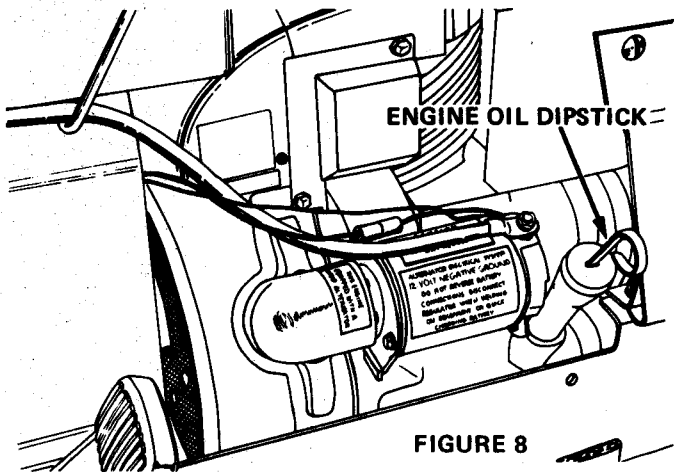

FIGURE 8
To check the oil, stop engine and wipe all dirt and dust from around the dip stick, Figure 8. Pull dip stick out, wipe off the oil, re-insert dip stick and push it down tight. Pull the dip stick out and observe the oil level. Add sufficient oil of the proper viscosity to bring the oil up to the "fill" (F) mark, see Figure 7. Be sure tractor is level when checking oil.